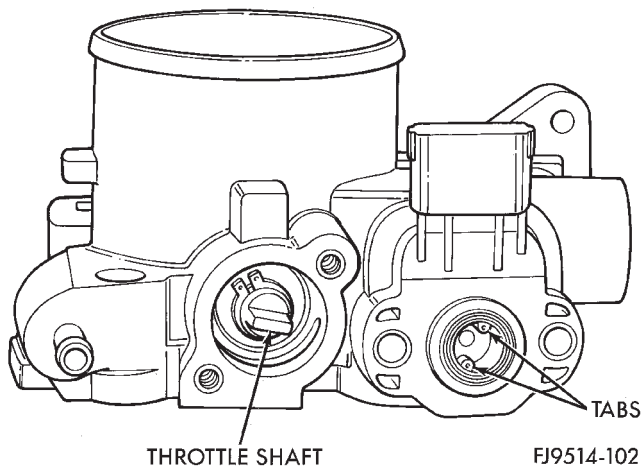

Fig. 81 Indexing Throttle Position Sensor—2.5L Engine
- (1) The throttle shaft end of the throttle body slides into a socket in the TPS (Fig. 81). The socket has two tabs inside it. The throttle shaft rests against the tabs. When indexed correctly, the TPS can rotate a few degrees to line up the mounting screw holes with the screw holes in the throttle body. The TPS has slight tension when rotated into position. If it is difficult to rotate the TPS into position, install the sensor with the throttle shaft on the other side of the tabs in the socket. Tighten mounting screws to 2 N·m (17 in. lbs.) torque.
- (2) After installing the TPS, the throttle plate should be closed. If the throttle plate is open, install the sensor on the other side of the tabs in the socket.